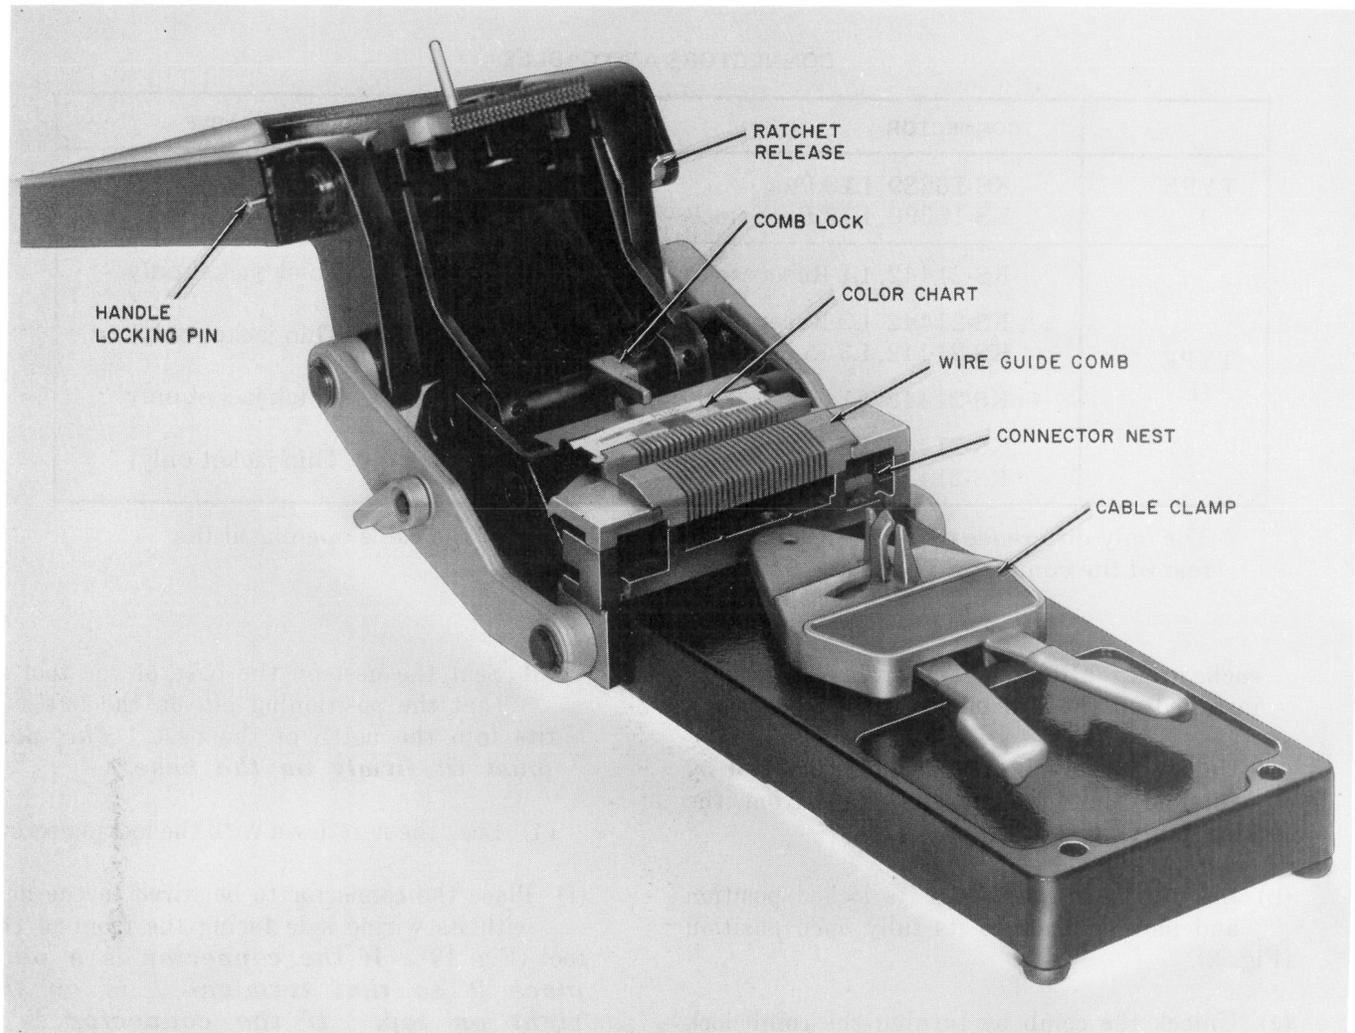

Fig. 2—KS-21749 Connecting Tool, Front View With Handle Open
- (b) Lift the handle up from its locked position and move it back to its fully open position (Fig. 2).
- (c) Unlock the comb by turning the comb lock to the right (Fig. 2).
- (e) Look at the connector nest (Fig. 2) to determine if it is in the correct position for the connector being wired. Table C lists the proper nest positions for the various connectors. "TYPE 1" or "TYPE 2" will be visible facing upward on the right side of the nest (Fig. 11 and 12). If the nest is in the correct position, go directly to step (f). If it is not, perform the following procedure first:
Note: After the handle ratchet engages and starts to click, the handle cannot be reversed until the connection operation is complete or unless the ratchet release is opened (Fig. 2).